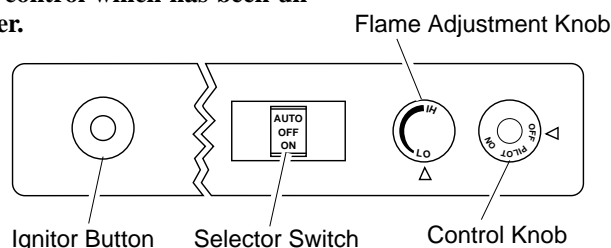

Figure 33 - Control Knob and Ignitor Button Location (Shown as Supplied, No Control Options)
5. Wait five (5) minutes to clear out any gas. Then smell for gas, including near the floor. If you smell gas, **STOP!** Follow "B" in the safety information. If you don't smell gas, go to the next step.
6. Press in and turn control knob counterclockwise to the PILOT position. Press in control knob for five (5) seconds (see Figure 33).